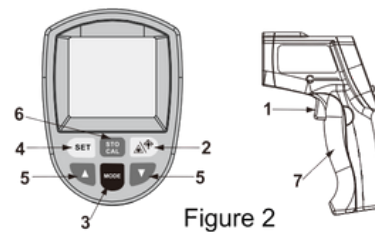

Figure 2
2. Diagram description: (figure 2).